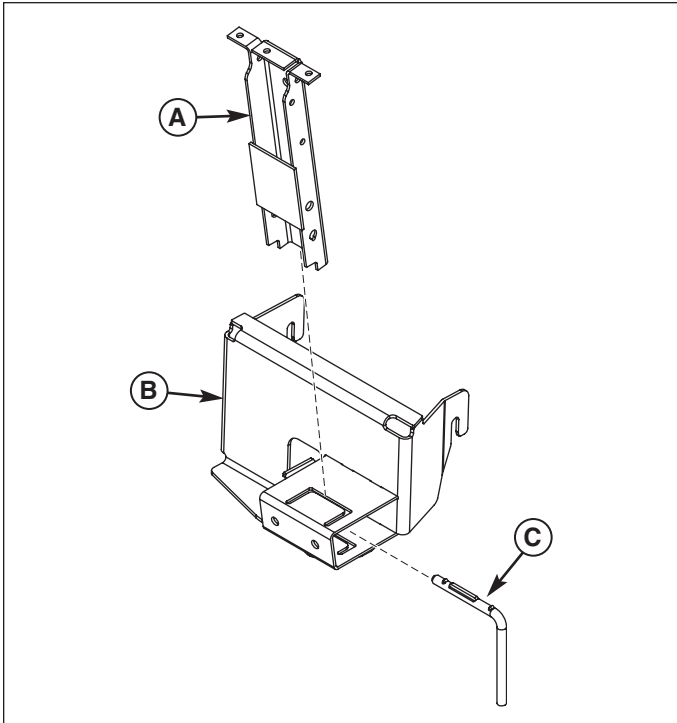
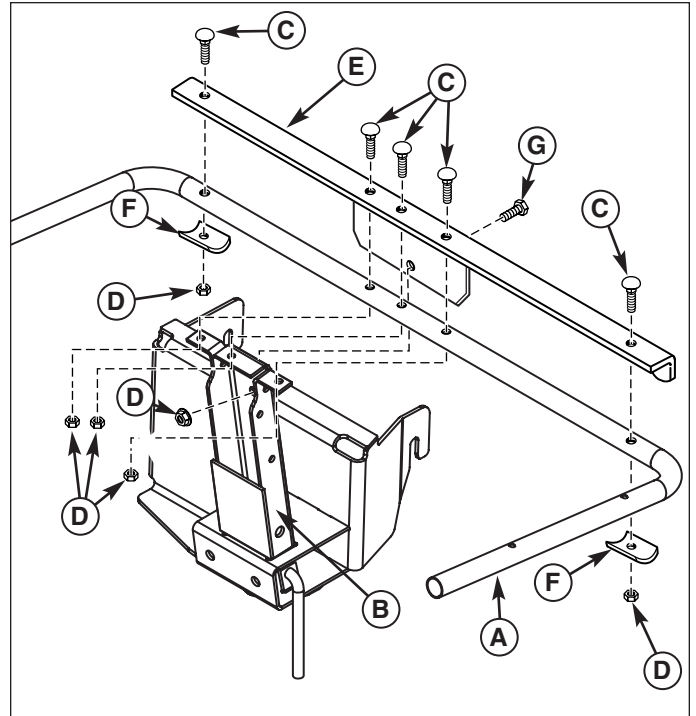

Figure 8. Install Channel Assembly
Figure 9. Install “U” Tube
1. Slide the channel assembly (A, Figure 8) into hitch (B) as shown.
2. Install the pin (C) into the right side of hitch (B) and turn pin (C) counterclockwise to lock in place.
3. Install the “L” channel (E, Figure 9) and “U” tube (A) to channel assembly (B) as shown. Secure with 5/16-18 x 1-3/4 carriage bolts (C), saddle clamps (F), and 5/16-18 nuts (D).
4. Install 5/16-18 x 3/4 capscrew (G) and 5/16-18 locknut (D) as shown.